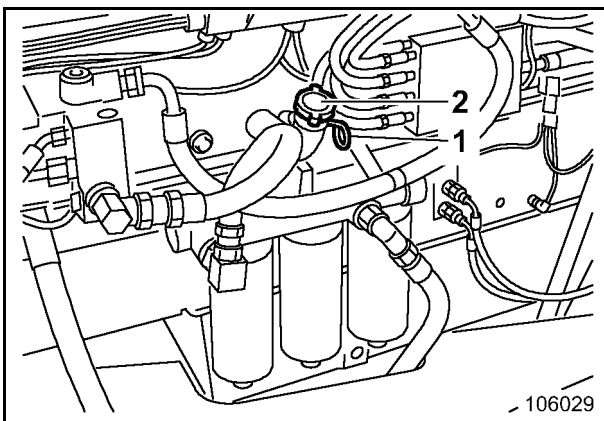

Fig. 3-10:
- Draw out oil dipstick (1, Fig. 3-10:).